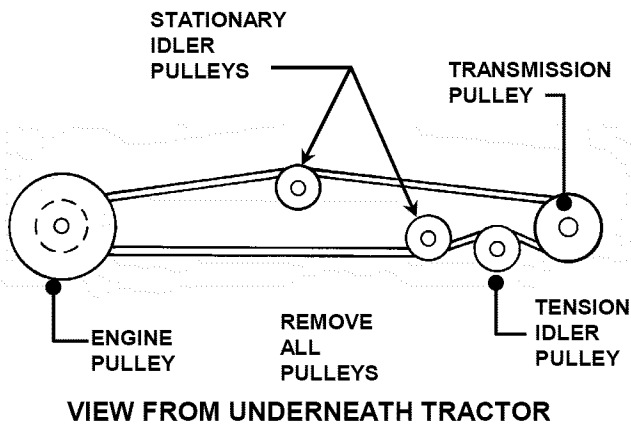

FIGURE 4.33
4. Remove mounting nuts that secure the traction drive belt idler tension pulley and stationary idler pulleys. See Figure 4.33.